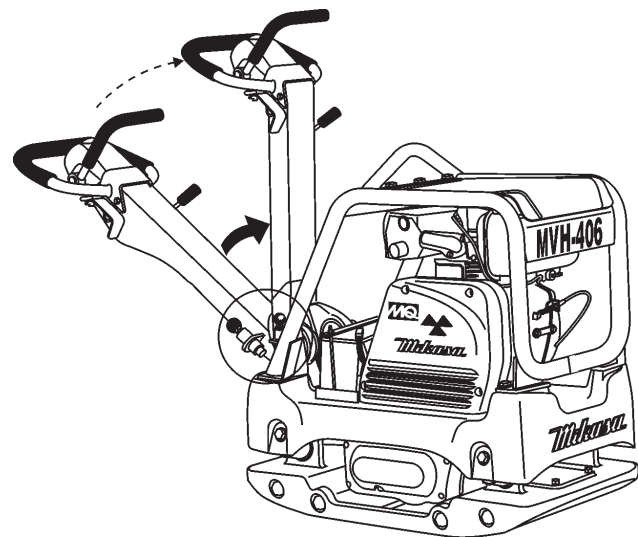

Figure 24. Stowing the Handle
- Push up the handle upward (Figure 24) until the handle locks in place.